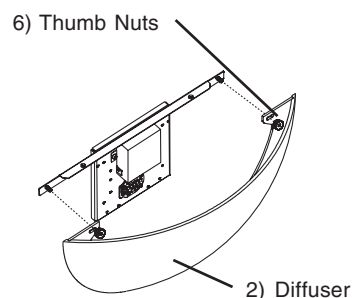

Fig 10
4. Align slots in back of **Diffuser (2)** with screws on bracket and secure with **Thumb Nuts (6)** as shown in **Fig 10**.